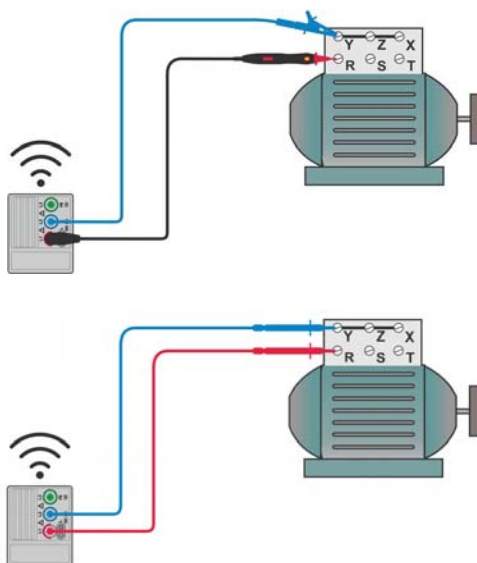

Figure 5.14: TL180 and test lead connections
- ❑ **Connect** the test leads to the item under test (see Figure 5.14:).